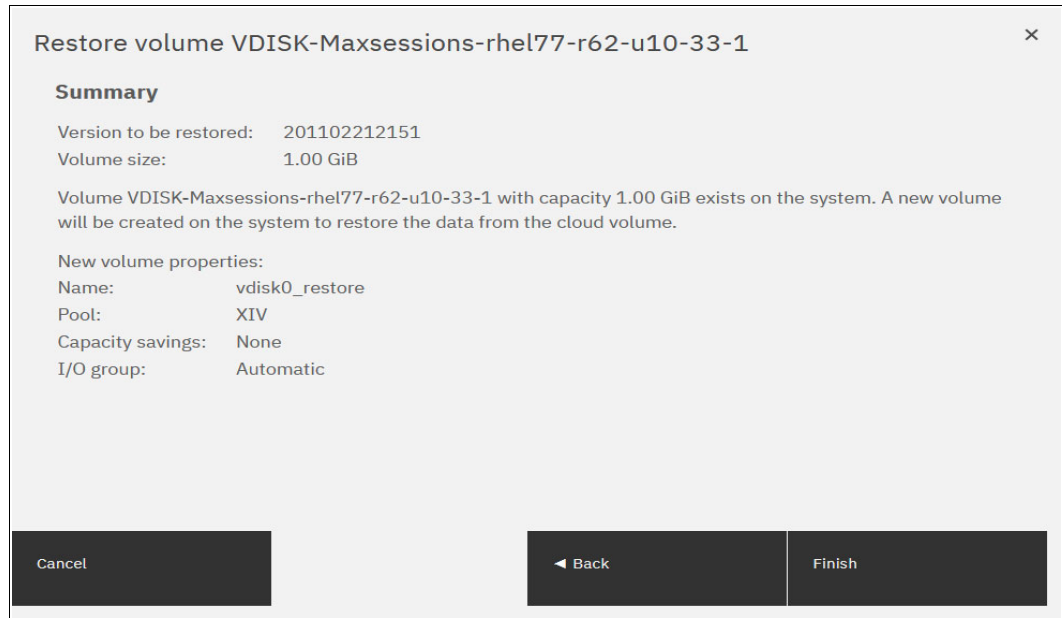

Figure 10-81 Restoring a snapshot summary
6. A Summary window is displayed so you can review the restoration settings, as shown in Figure 10-81. Click **Finish**. The system creates a volume or overwrites the selected volume. The more recent snapshots (later versions) of the volume are deleted from the cloud.